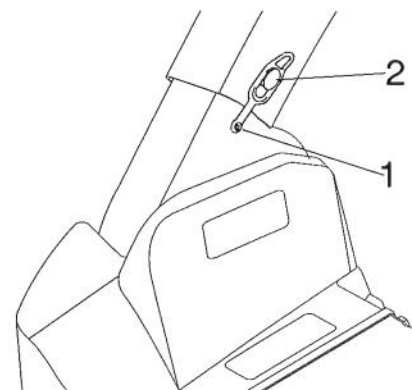

Figure 8
2. Hook the rubber latch onto the knob (Fig. 8).